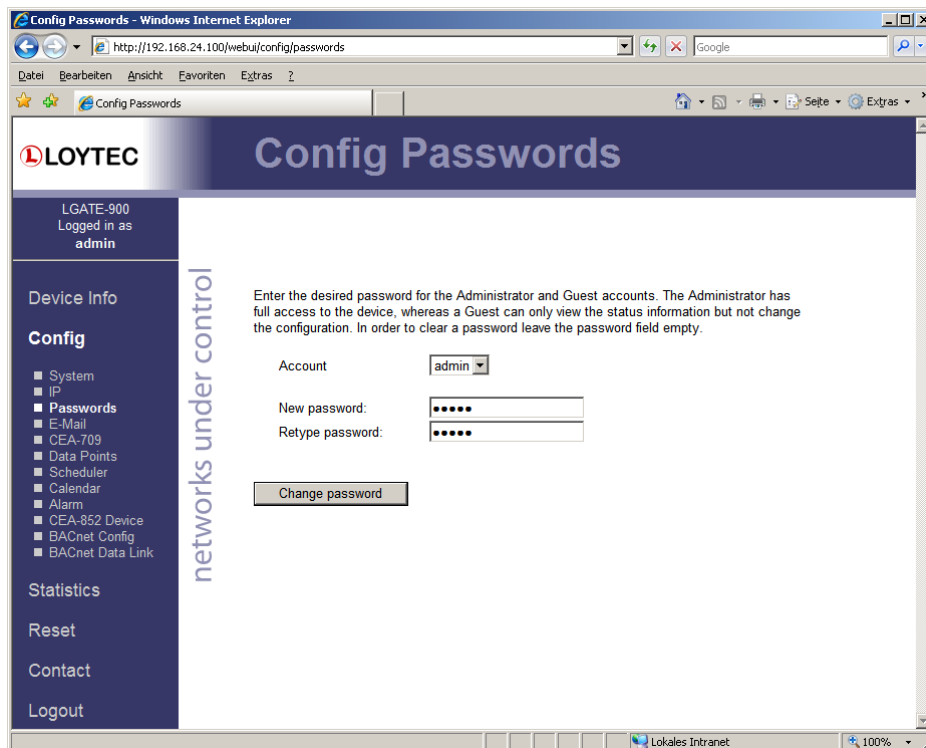

Figure 39: Password Configuration Screen
The Config menu opens. Click on “Passwords” in the Config menu, which opens the password configuration page as shown in Figure 39. The L-Gate has two user accounts: (1) “guest” allows the user to view certain information only, e.g. the device info page. By default the guest user has no password. (2) “admin” has full access to the L-Gate and can make changes to its configuration. Note that the user accounts are also used to log on to the FTP and Telnet server.